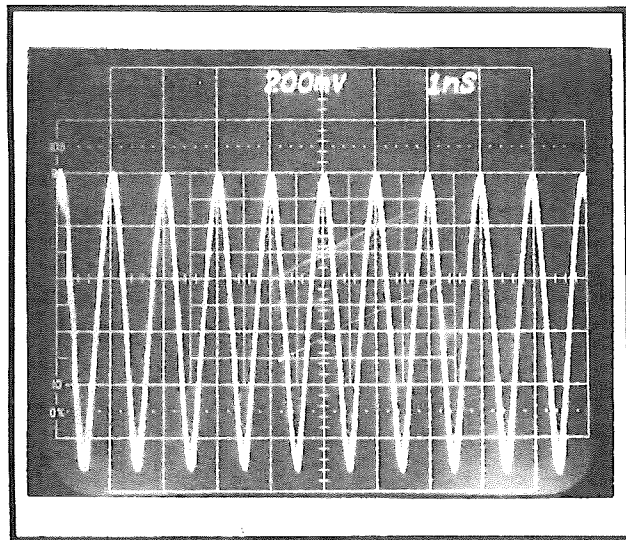
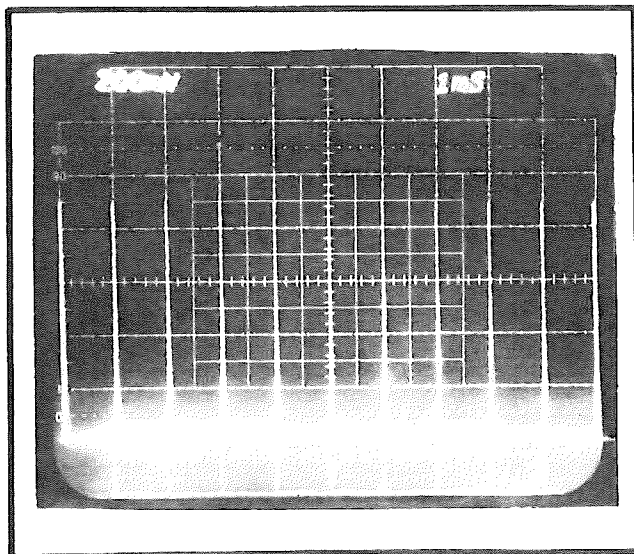
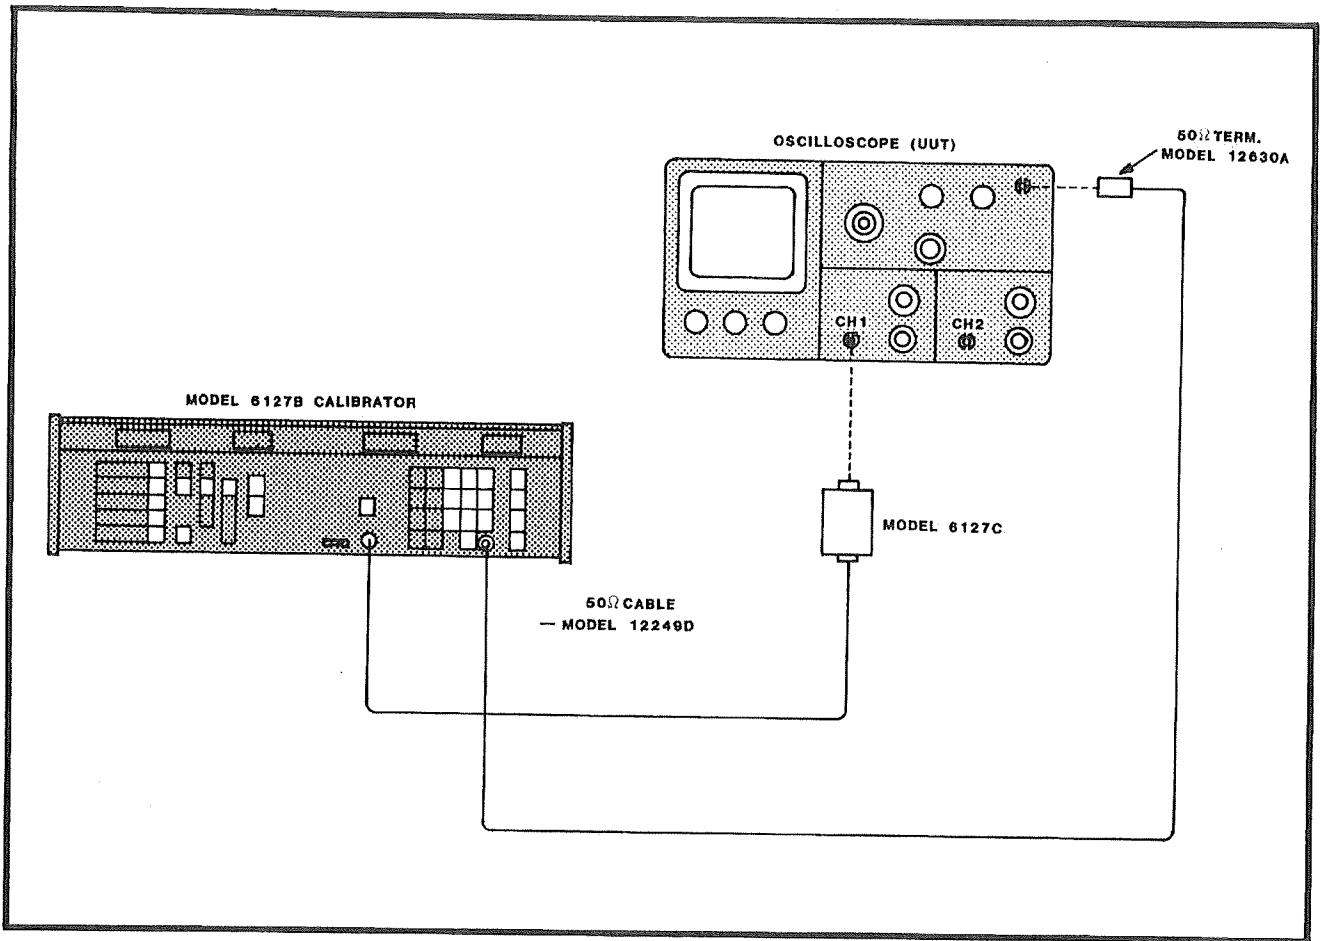

Figure 3-17. Time/Div Display 1 ns Markers
Figure 3-16. Time/Div Display, 1 ns Markers
Figure 3-19. Time/Div Mode, Test Set-Up
a. Select the TIME/DIV OUTPUT mode to provide time markers, having well defined peaks (figure 3-16) for periods slower than 10 nanoseconds and sinewaves for 1 and 0.5 nano-seconds (figure 3-17 and 3-18). All timing signals are locked to the 6127B precision crystal controlled clock. Attach the Model 61271C FAST RISE PULSE Head to connect the TIME/DIV markers to the oscilloscope (UUT). Refer to figure 3-19 for test equipment set-up. The 6127B automatically switches a
g. Increment the % DEVIATION by pressing the Δ key pad (this will cause the distance between the time markers to increase) or decrement by pressing the ∇ key pad (this will cause the distance to decrease). By incrementing or decrementing, adjust the time markers so that they are coincident with the vertical graticule lines. (See figure 3-17.) The second and tenth time marks should exactly align with the vertical graticule lines. Read the % DEVIATION displayed on the Model 6127B. It is the time base range calibration error of the UUT.